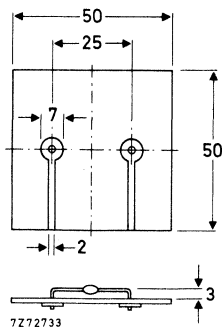

Fig. 2 Device mounted on a printed circuit board.
2. Thermal resistance from junction to ambient when mounted on a 1,5 mm thick epoxy-glass printed-circuit board; Cu-thickness $\geq 40\text{ }\mu\text{m}$; Fig. 2 (see "Thermal model")